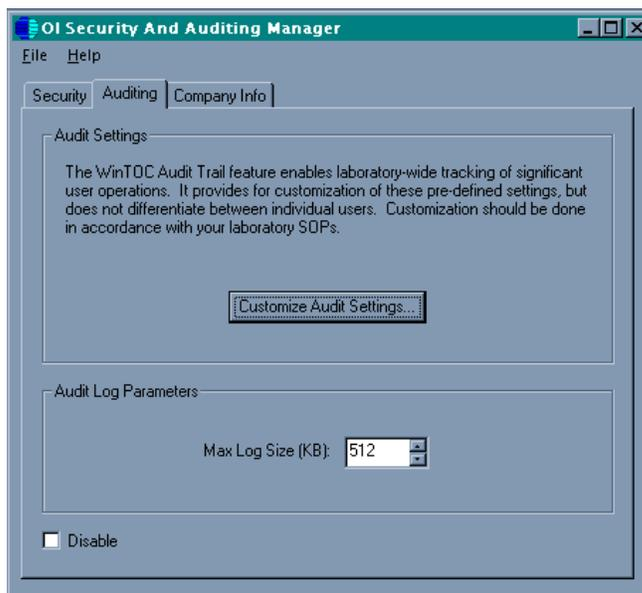

Figure 6.4. Auditing page
1. Click the **Auditing** tab to access the Auditing page (Figure 6.4.).